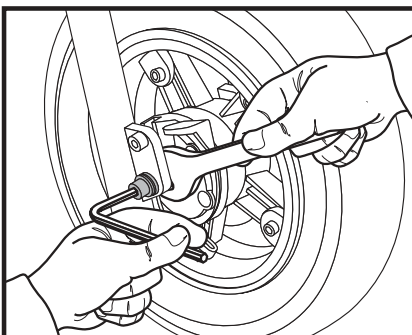
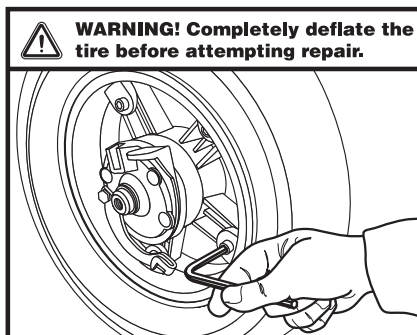

Figure 23. Front Wheel Securement
Figure 25. Rim Securement
3. Remove the lower bolt that fastens the brake housing to the left side of the front fork. See figure 23.
6. If changing a flat, totally deflate the tire before removing the five (5) screws that hold the rim together. See figure 25.
8. Reassemble the brake to the rim and secure it with the five (5) screws.
9. Reassemble the rim and secure it together with the five (5) screws.
10. Reinstall the wheel back onto the PMV and tighten the lower bolt. See figure 23.